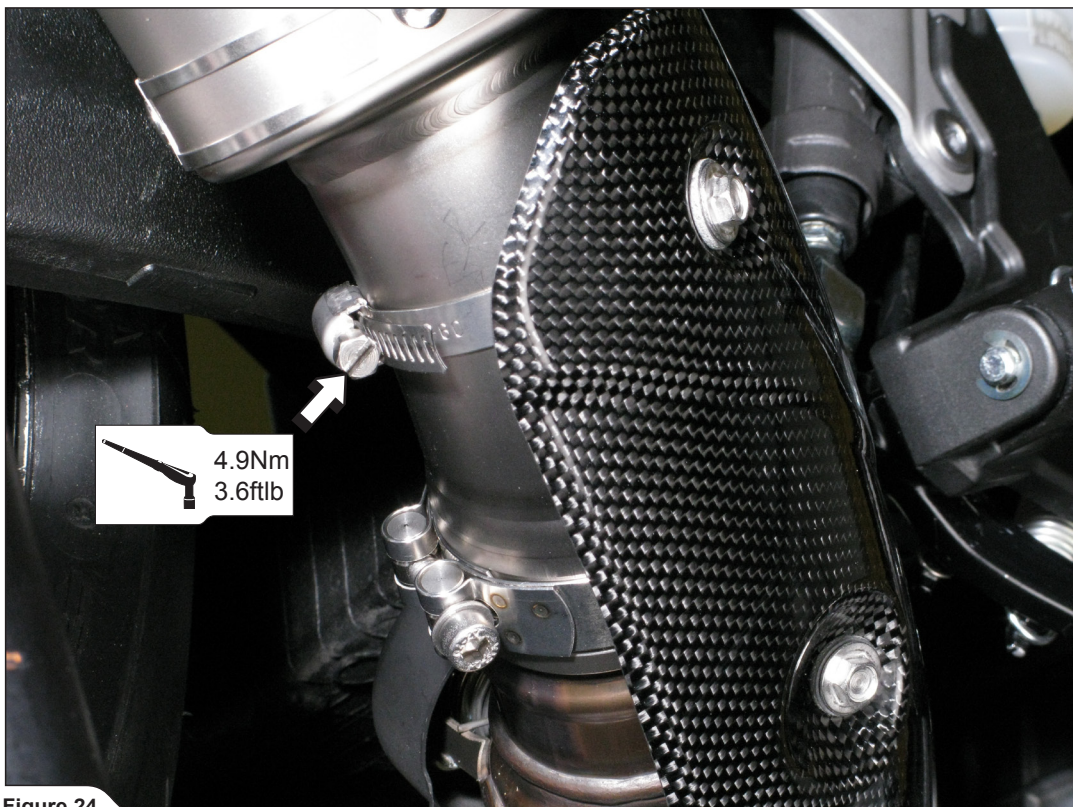

Figure 24
13. Tighten the heat-shield bracket's tape clamp to the specified torque (Figure 24).